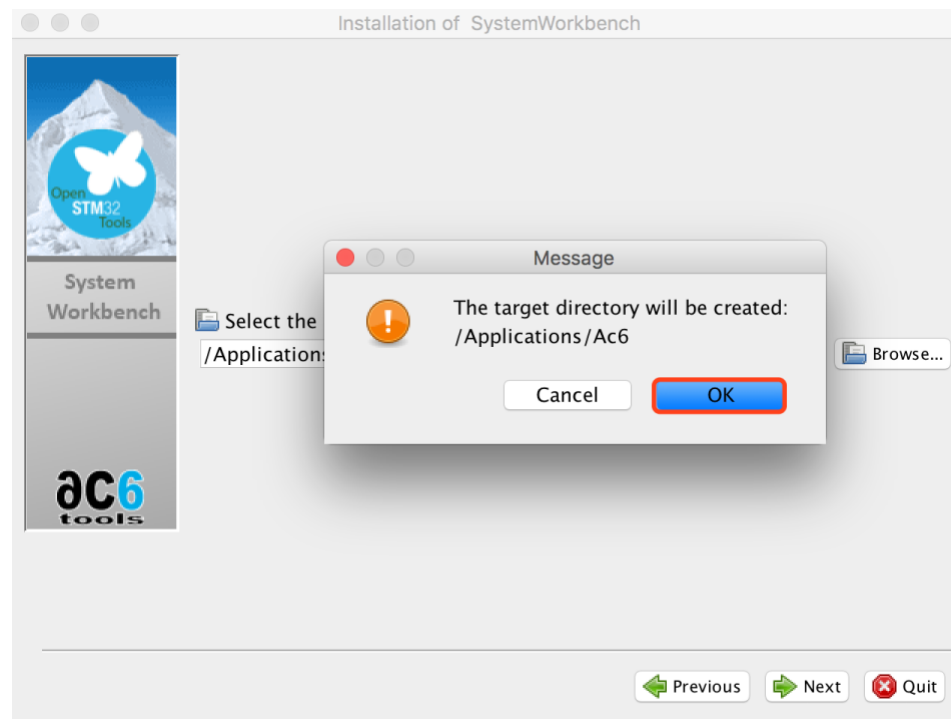

Figure 6: Create the installation directory
11. Click OK in the pop-up window. See Figure 6.